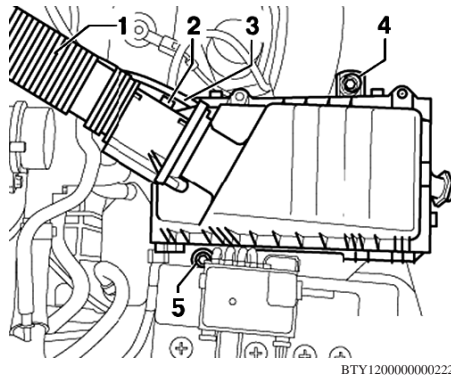

Fig. 1 Air cleaner housing removal
4. Pull off intake hose (1), connector (2) and hose (3) from mass air-flow sensor, **Fig. 1**.
5. Remove air cleaner mounting bolts (4 and 5), **Fig. 1**.